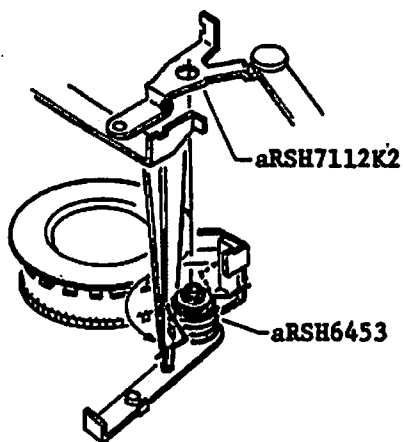

Fig. 117
(1) Keep Spring (aRSH6453) wound for $\frac{1}{2}$ turn with a tweezers. (Fig. 117)
(2) Attach Charging lever and hook the spring on the lever as shown in Fig. 117 and 118.